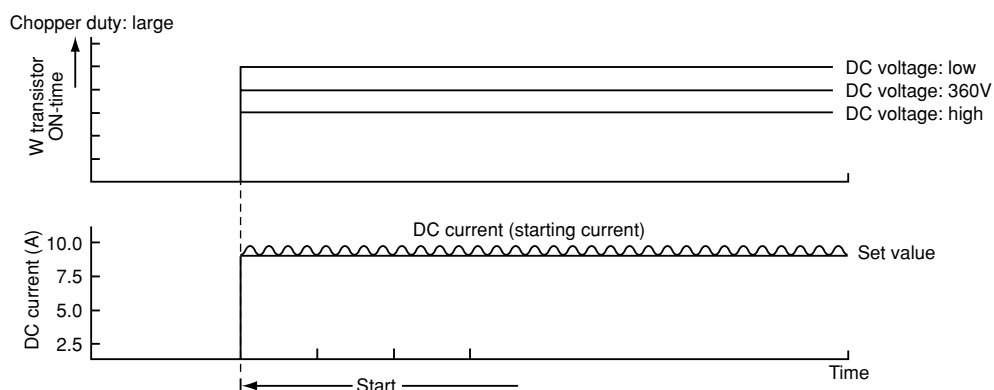

Fig. 8-7
- (2) As shown in Fig. 8-7, ON time of W⁺ transistor changes according to DC voltage level so that starting current is about 10A.